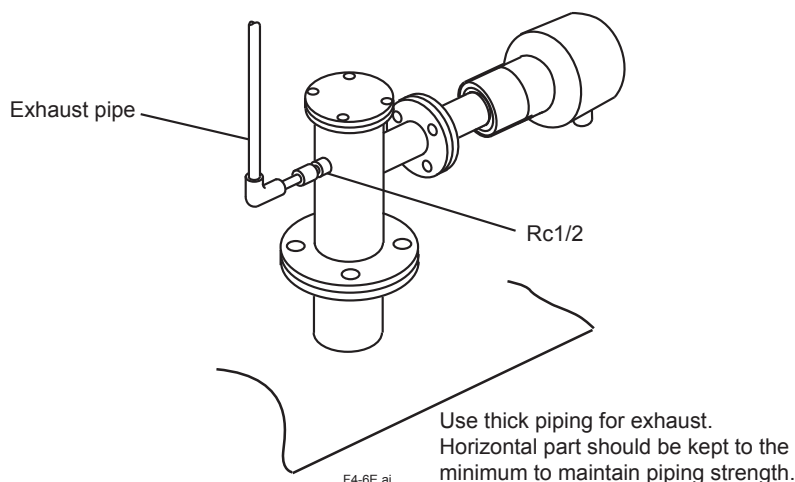

Figure 4.6 Exhaust pipe
- If a high temperature detector is used and no piping can be installed for the reference gas, place piping in the exhaust hole for the sample gas on the high temperature probe adapter so that the sample gas is carried away from the vicinity of the detector (see Section 4.1.4, Figure 4.6).
If the sample gas is to be vented at a distance from the detector because no reference gas piping can be provided, an exhaust pipe should be installed as illustrated in Figure 4.6. In addition, the exhaust pipe shall be kept warm to protect against condensation.